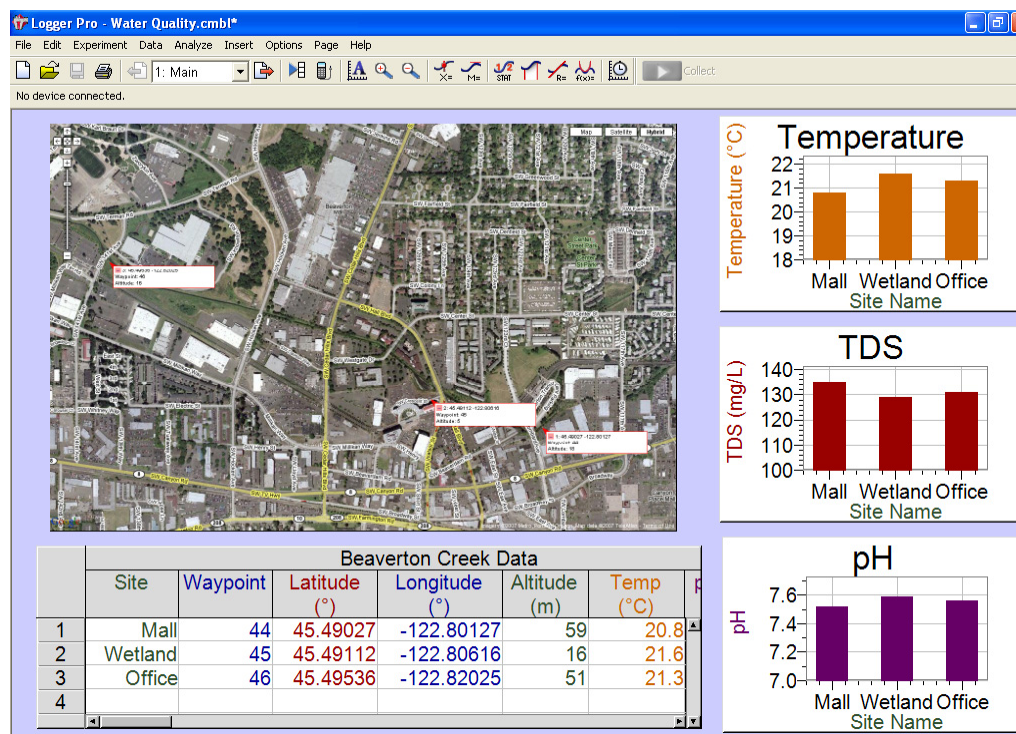

Figure 4: *Logger Pro* with inserted Google map image.
4. The resulting map can then be inserted into *Logger Pro* as a picture as shown in Figure 4.